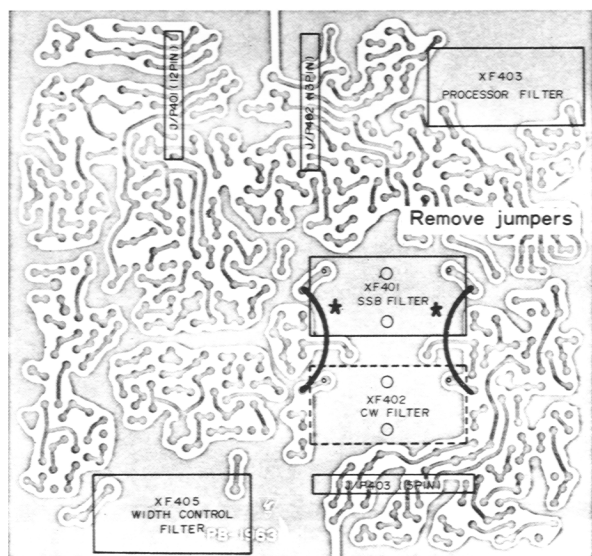

Figure 3
- (4) Install the optional CW filter as shown in the foil side view of the IF unit (Fig. 3). Make the fastening nuts snug, and solder the pins of the filter to the circuit board, and remove the 2 jumper wires shown in Figure 3.
- (4) Install the DC-DC converter module as shown in Figure 3. Use the four screws supplied with the kit. Do not force the plug into the socket, as the connection should be smooth, yet solid.
- (5) Check the DC cable fuse socket, located in the positive (red) lead, to be certain that a 20 amp fuse is installed.